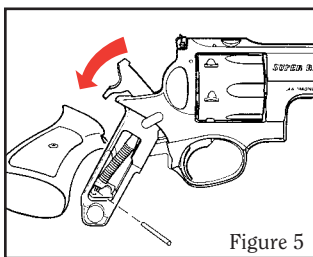

Figure 5
2. Using a properly fitting screwdriver, remove grip screw. Remove pistol grip inserts from grips. Grip panel locator may then be removed. Pull grip downward off frame. Take care not to lose the disassembly pin, which may fall free when the grip is removed (see Figure 5).
3. Cock the hammer. Insert disassembly pin about one half its length into the hole at the rear of the mainspring strut (see Figure 5).